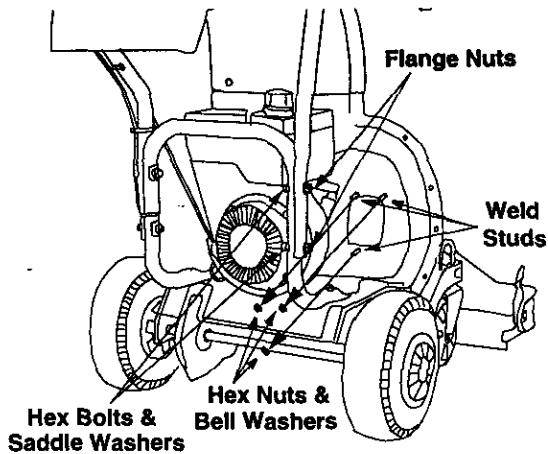

Figure 6
- Remove the two flange nuts, hex bolts and saddle washers which secure the right side of the upper handle to the right side of the lower handle. See Figure 6.
- Next, remove the three hex nuts and bell washers from the weld studs found beside the opening on the right side of the chipper-shredder vacuum. See Figure 6.